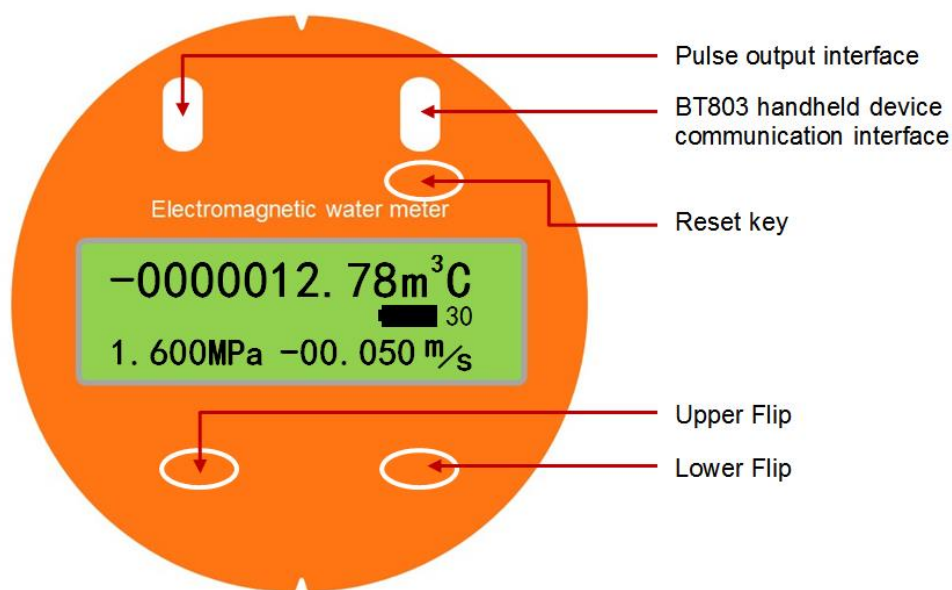

Fig. 3.2 BT803 convertor LCD and magnetic key operating position
Step5: Aligned the magnetic pen with the reset button on the right (Fig. 3.2) and then remove the magnetic pen, the meter will reset automatically once and leave the sleep mode to measurement mode (the battery symbol is displayed in the right of the middle line of the LCD, second timer accumulates once around 15S).
When need to enter measurement mode under test mode, remove **BT803** handheld and press “Reset” Button (Fig. 3.2) on the convertor LCD by magnetic pen.